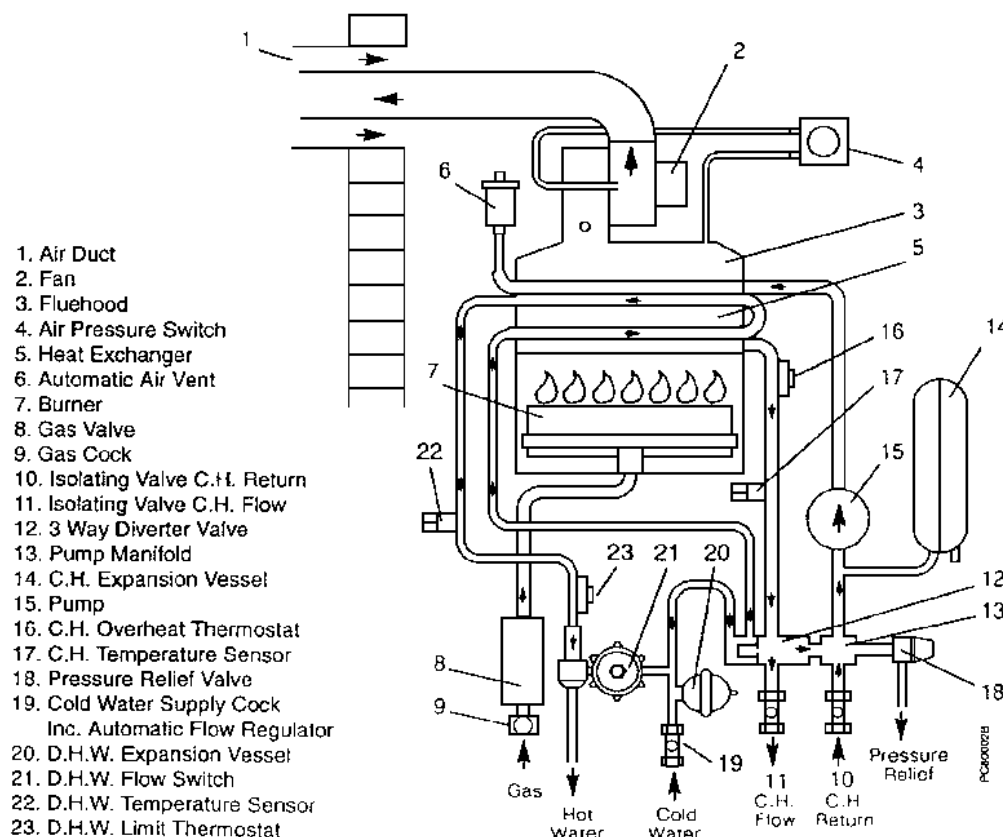

Fig. 1
**Central Heating:** A central heating switch controls the choice of service between central heating and hot water only. The boiler water flow system is shown in Fig. 1.